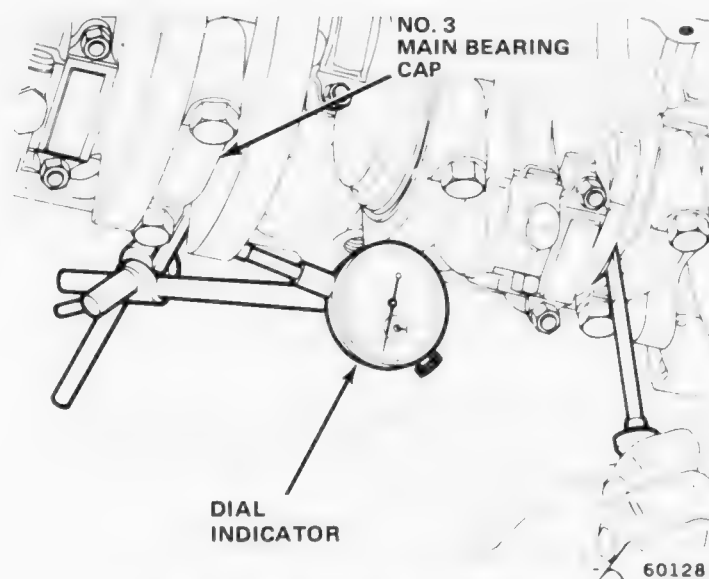

Fig. 1B-169 Crankshaft End Play Measurement
- (1) Attach dial indicator to crankcase adjacent to No. 3 main bearing.
- (2) Set dial indicator push rod on face of adjacent counterweight (fig. 1B-169).
- (3) Pry crankshaft fore and aft.
- (4) Read dial indicator. End play is the difference between high and low readings.